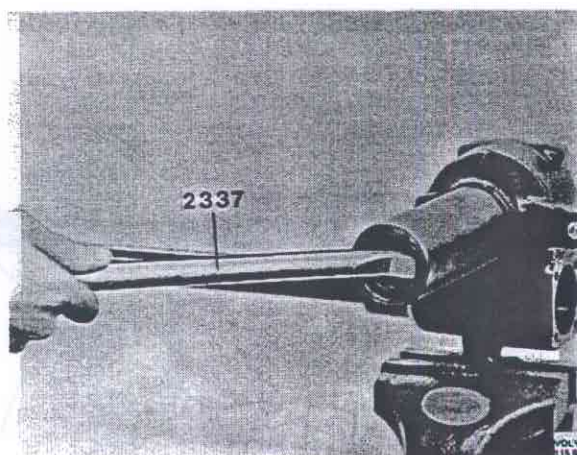

Fig. 64-15. Removing the sealing ring
8. Lever out the sector shaft sealing ring (1) with drift 2337, see Fig. 64-15.